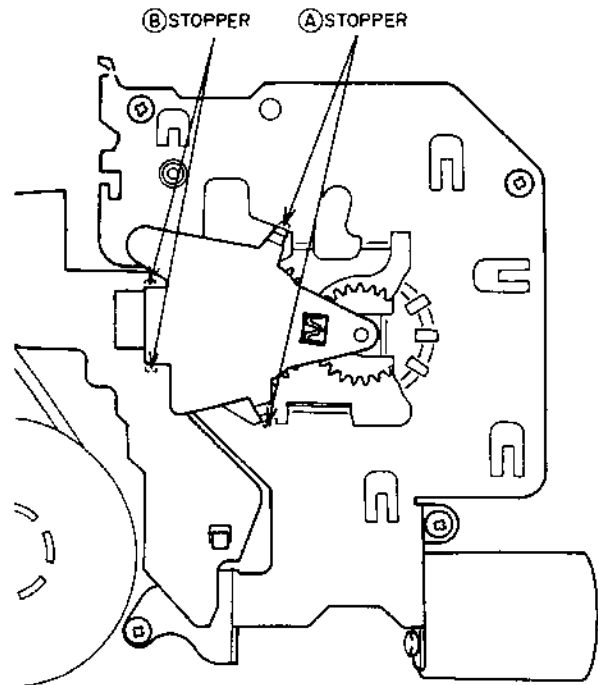

Fig. 4-5
1) Release the two (A) stoppers as shown in Fig.4-5.